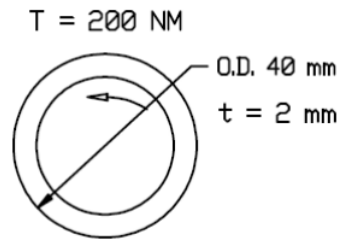

Figure 3
- (b) Compare between Bredt’s formula and the exact theory when used to evaluate the angle of twist of thin-walled circular tube in Figure 3 . Take $D_0 = 40mm$, $t = 2mm$, $G = 80GPa$, $L = 1m$, and $T = 200 Nm$. [BL: Apply| CO: 5|Marks: 7]